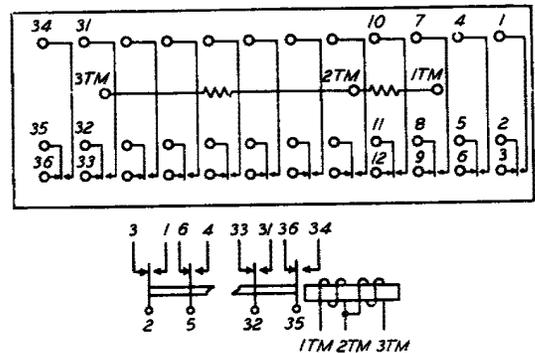

Fig. 99 – Winding and Spring Terminal Arrangement as Viewed From Rear (terminal side) — KS-5264 Transfer Switch
3.16 KS-5264 Transfer Switches: With the switch mounted vertically with the pivot below the center of the coil, when viewed from the terminal side of the switch, the contacts in any row of terminals number from the top down beginning with 1 in the right row of terminals and progressing to the rows toward the left. The three winding terminals number from right to left as shown in Fig. 99.